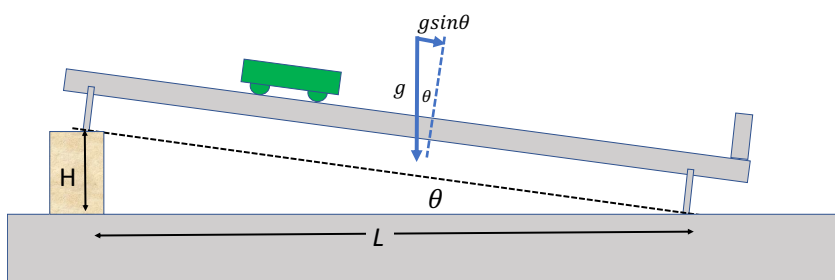

Figure 3
8. So far, we assume that the value of  $g$  is the accepted value of 9.8 m/s/s. From the vector diagram shown in Figure 3, the acceleration of cart is the component of  $g$  along the direction of the ramp. Thus the acceleration measured in Step 6 can lead to the value of  $g$  using the relation: